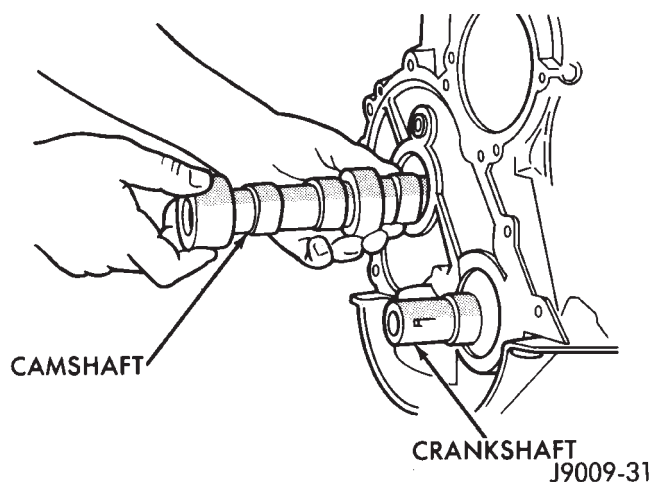
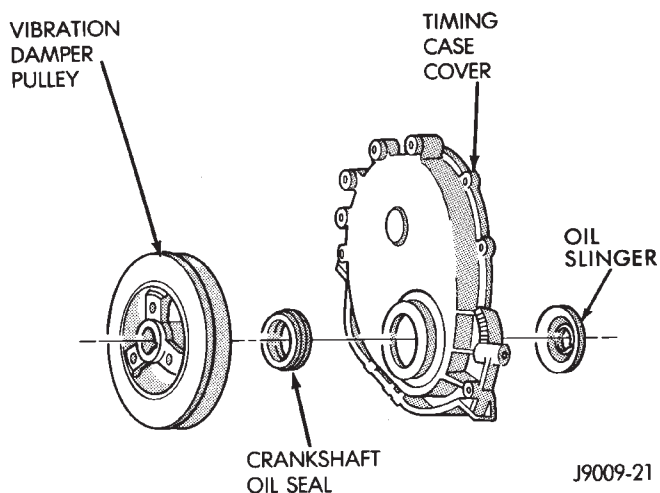

Fig. 9 Camshaft
Fig. 10 Timing Case Cover Components
(6) Remove the distributor and ignition wires.
(7) Remove the engine cylinder head cover.
(8) Remove the rocker arms, bridges and pivots.
(9) Remove the push rods.
(10) Remove the engine cylinder head and gasket.
(11) Remove the hydraulic valve tappets from the engine cylinder head.
(12) Remove the vibration damper.
(13) Remove the timing case cover.
(14) Remove the timing chain and sprockets.
(15) Remove the front bumper and/or grille, as required.
(16) Remove the camshaft (Fig. 9).
- (1) Lubricate the camshaft with Mopar Engine Oil Supplement, or equivalent.
- (2) Carefully install the camshaft to prevent damage to the camshaft bearings (Fig. 9).
- (3) Install the timing chain, crankshaft sprocket and camshaft sprocket with the timing marks aligned.
- (4) Install the camshaft sprocket retaining preload bolt. Tighten the bolt to 108 N•m (80 ft. lbs.) torque.
- (5) Lubricate the tension spring, the thrust pin and the pin bore in the preload bolt with Mopar Engine Oil Supplement, or equivalent. Install the spring and thrust pin in the preload bolt head.
- (6) Install the timing case cover with a replacement oil seal (Fig. 10).
- (7) Install the vibration damper (Fig. 10).
- (8) Install the hydraulic valve tappets.
- (9) Install the engine cylinder head.
- (10) Install the push rods.
- (11) Install the rocker arms and pivot and bridge assemblies. Tighten each of the capscrews for each bridge alternately, one turn at a time, to avoid damaging the bridge.
- (12) Install the engine cylinder head cover.
- (13) Install the serpentine drive belt and tighten to the specified tension (refer to Group 7, Cooling System for the proper procedure).